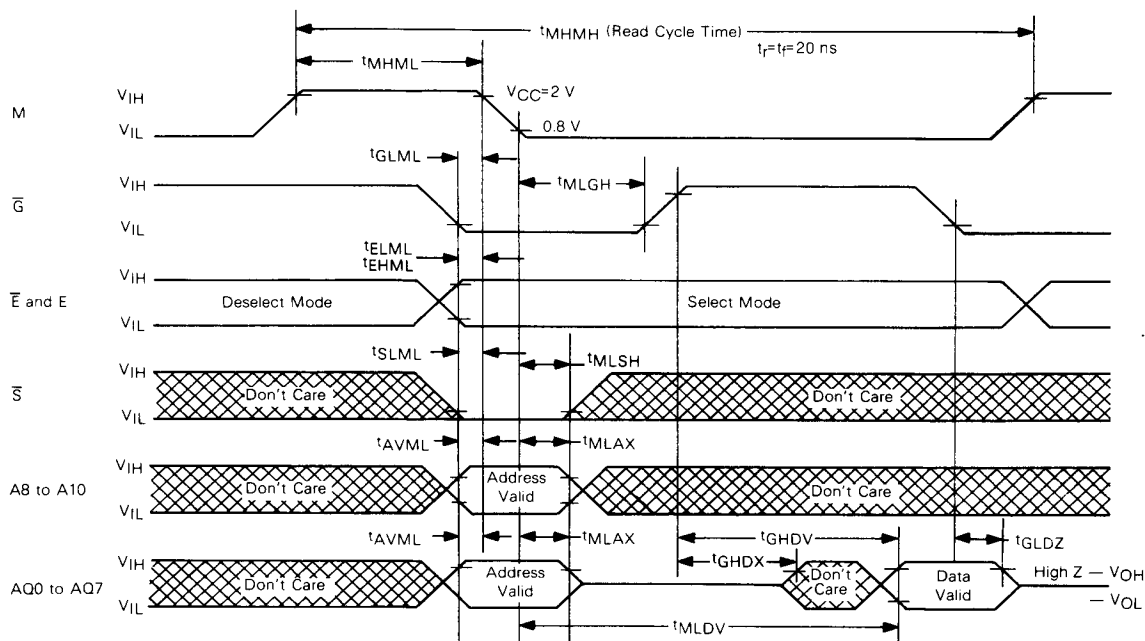
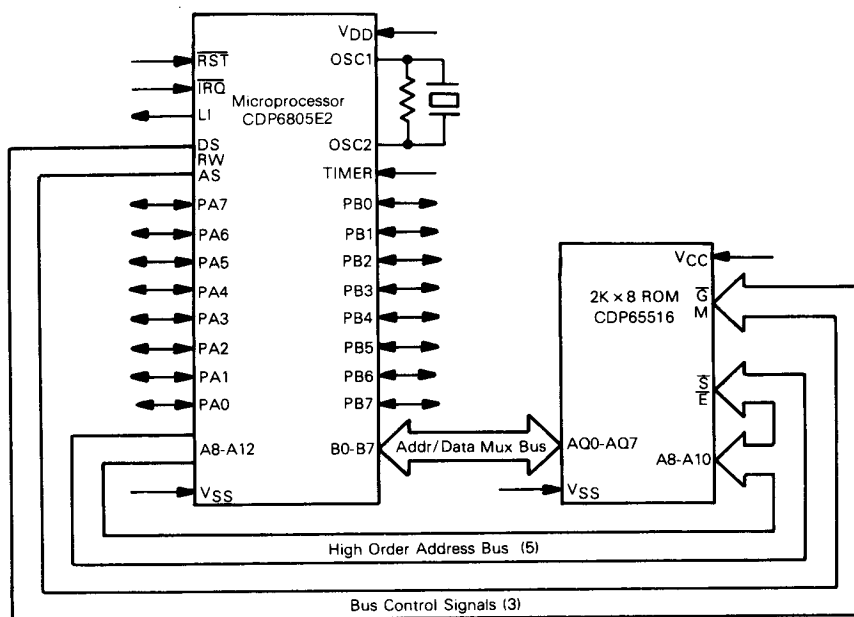

Fig. 2 - Read cycle timing waveforms.
Fig. 3 - Typical minimum system.
An example of this operation is shown in Fig. 3. Shown is a typical connection with the CDP6805E2 CMOS microprocessor. The main difference between this system and competitive process is that the data strobe (DS) on the CDP6805E2 and the read bar ( $\overline{RD}$ ) on the competitive process both control the output of data from the ROM but are of opposite polarity. The 2K x 8 ROM can accept either polarity signal on the data strobe input as long as the signal toggles during the cycle. This is termed the MOTEL mode of operation. This unique operational feature makes the ROM an extremely versatile part. Further operational features are explained in the following section.
and display time, using an optional CDP6818 Real-Time Clock (RTC), and routines to punch and load an optional cassette interface. Fig. 2 shows a minimum system which only requires the MPU, ROM, keypad inputs and display output interfaces. Port A of the CDP6805E2 MPU is required for the I/O; however, Port B and all other CDP6805E2 MPU features remain available to the user. A possible expanded system is shown in Fig. 3.